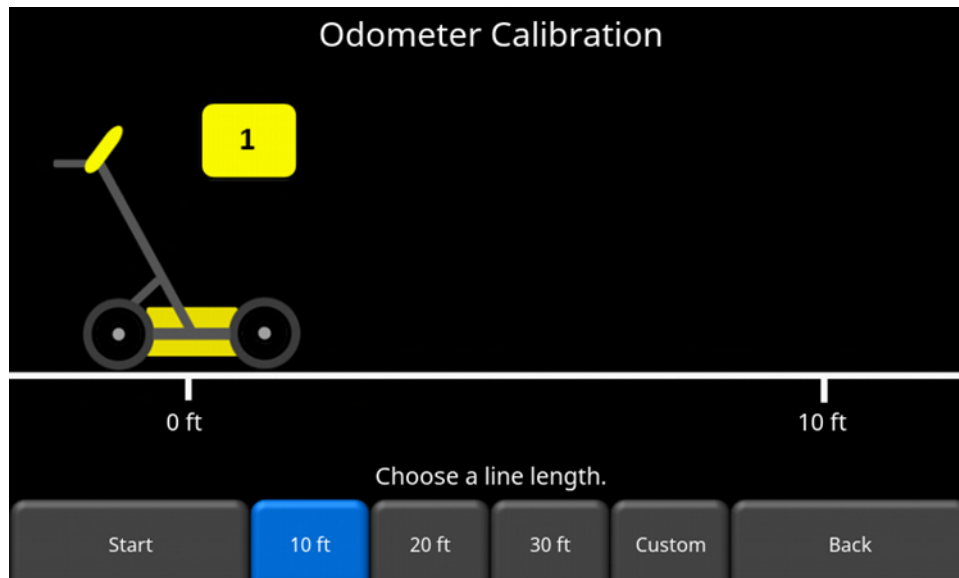

Figure 4-19: Odometer Calibration – select a distance and then press Start
- **Odometer Calibration** - This option actually calibrates the odometer (Figure 4-19). Choose a set distance from the screen or select Custom. Then press **Start** and move the system that exact distance, using a measuring tape or other known distance indicator. Press **Finish** when you have travelled that distance.